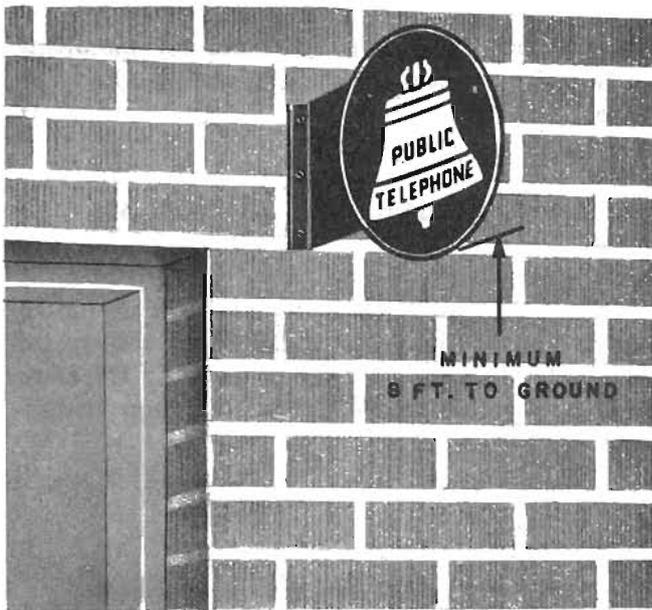
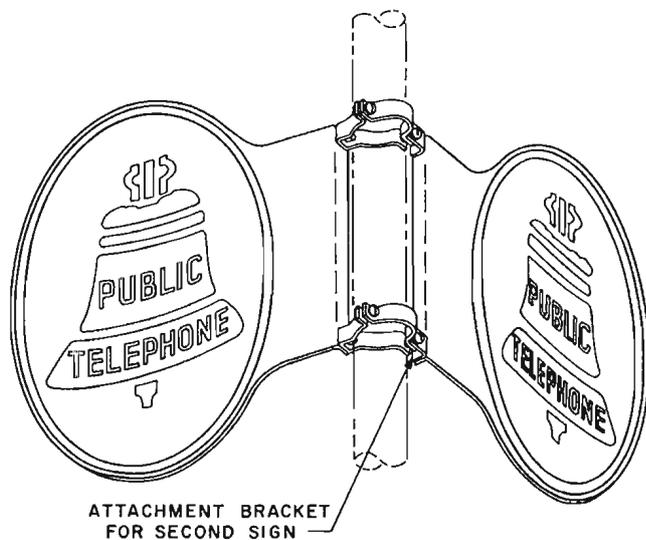

Fig. 5 — KS-16597-Type Sign
Fig. 6 — Double Installation, KS-16597-Type Signs
3.06 KS-16597-type signs may be mounted at right angles to a flat surface (Fig. 5) or on a post or pole with 170- or 188-type brackets (see Fig. 6).